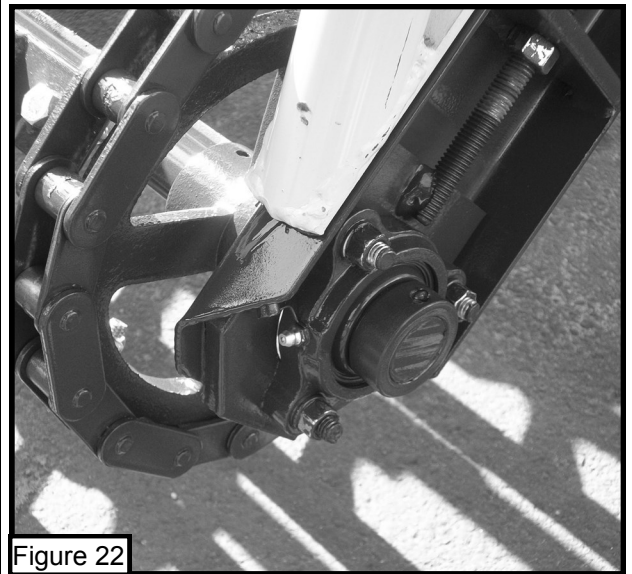

Figure 22
7. Grease lower conveyor frame bearing daily. Grease fitting shown in Figure 22.